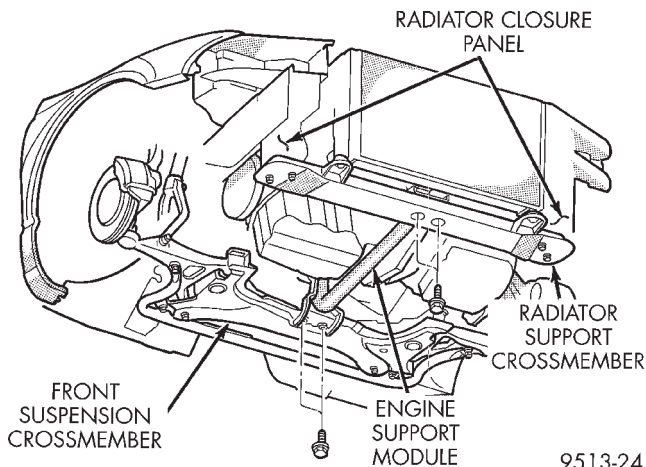

Fig. 1 Engine Support Module
- (1) Hoist and support vehicle on safety stands. Refer to Group 0, Lubrication and Maintenance, for proper procedure.
- (2) Remove bolt holding engine support to rear engine mount isolator (Fig. 1).
- (3) Remove bolt holding engine support to front engine mount isolator.
- (4) Place a suitable lifting device under engine support module.
- (5) Remove bolts holding radiator support crossmember to bottom of radiator closure panel.
- (6) Remove bolts holding engine support module to front suspension crossmember.
- (7) Separate engine support module and radiator support crossmember from vehicle.
- (8) Separate engine support module and radiator support crossmember.